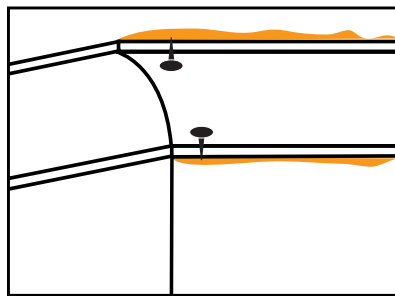

FIGURE 67 Position Cornice
- > Press the cornice into place and if necessary hold with temporary nails in the wall and ceiling along the edges of the cornice [Figure 67]